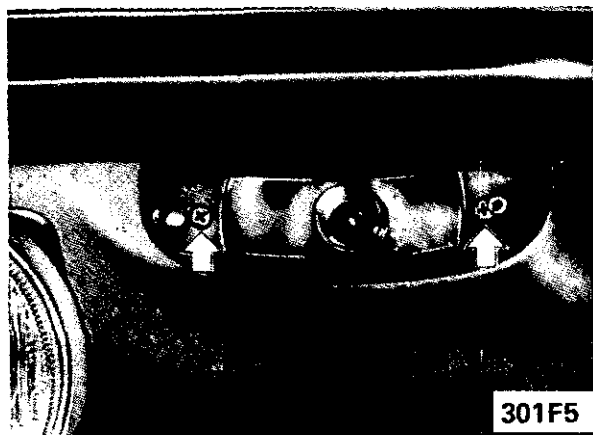

Figure 1F-5 Remove Parking Light Housing
2. Remove two screws holding housing. See Figure 1F- 5.